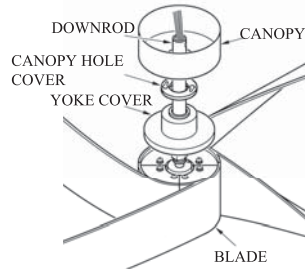
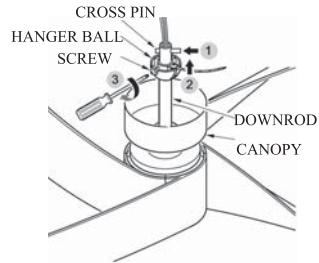

FIG.6
FIG.7
- Slip the yoke cover, canopy hole cover and canopy onto downrod. Carefully reinstall hanger ball onto rod being sure that cross pin is in the correct position, set screws are tighten and wires are not twisted. ( See Fig. 6 & Fig. 7 )